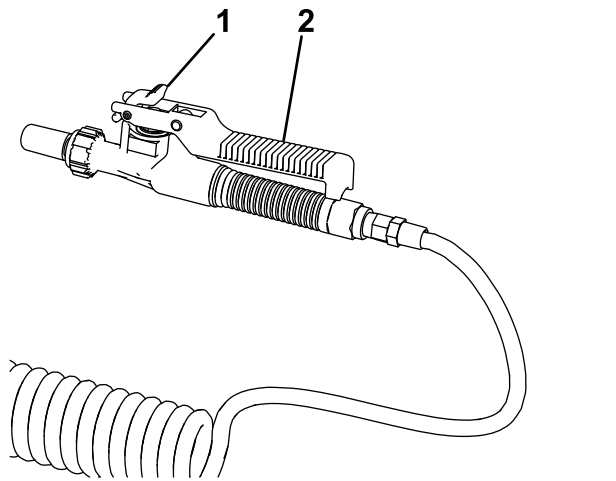

Figure 23
4. Squeeze the handle on the spray gun to begin spraying (Figure 23).